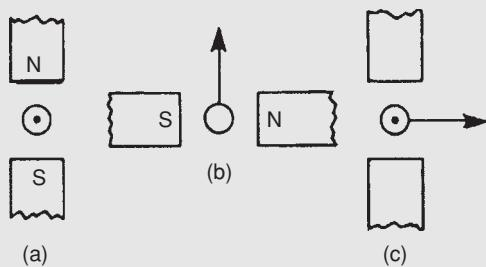
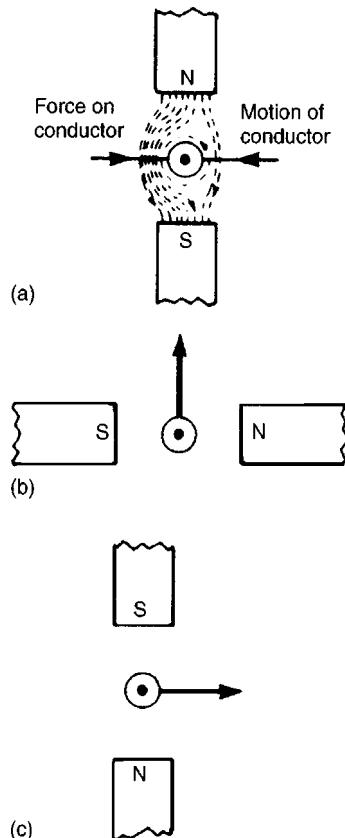

Figure 9.4
Figure 9.5
Problem 5. The diagrams shown in Fig. 9.4 represents the generation of e.m.f.'s. Determine (i) the direction in which the conductor has to be moved in Fig. 9.4(a), (ii) the direction of the induced e.m.f. in Fig. 9.4(b), (iii) the polarity of the magnetic system in Fig. 9.4(c)
(i) Using Lenz's law: The field due to the magnet and the field due to the current-carrying conductor are shown in Fig. 9.5(a) and are seen to reinforce to the left of the conductor. Hence the force on the conductor is to the right. However Lenz's law states that the direction of the induced e.m.f. is always such as to oppose the effect producing it. **Thus the conductor will have to be moved to the left.**
i.e. **towards the viewer or out of the paper**, as shown in Fig. 9.5(b)
(iii) The polarity of the magnetic system of Fig. 9.4(c) is shown in Fig. 9.5(c) and is obtained using Fleming's right-hand rule.